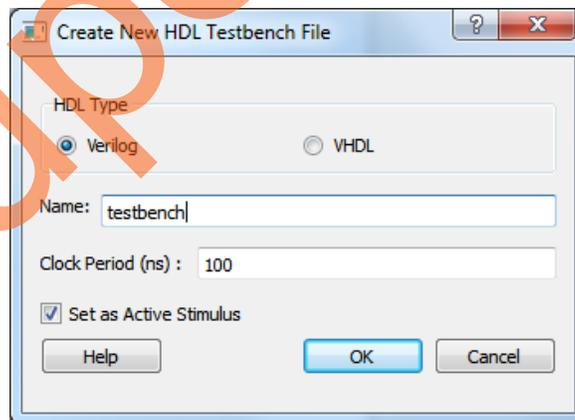

Figure 29. Default Testbench
2. Enter the name as **testbench** in the **Create New HDL Testbench File** window and click **OK**, as shown in **Figure 29**.